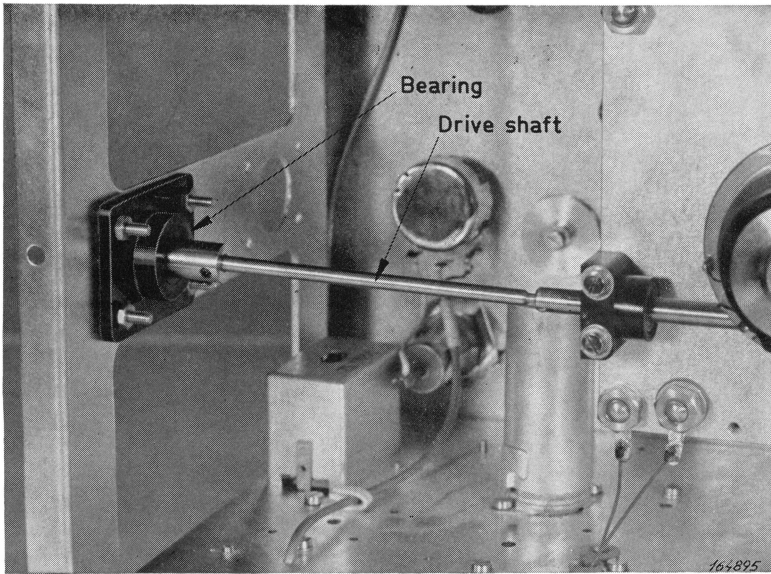

Fig. Aa1.
2. Facing the back of the instrument remove the left hand shaft bearing and part of the shaft shown in Fig. Aa1. If it is intended to drive the Beat Frequency Oscillator from the B & K Level Recorder Type 2305 as well as from its own motor, the right hand part of the shaft should be left in position. If the oscillator is to be used only with the Tracer ,and especially at high sweep speeds it is recommended to remove both parts of the drive shaft.